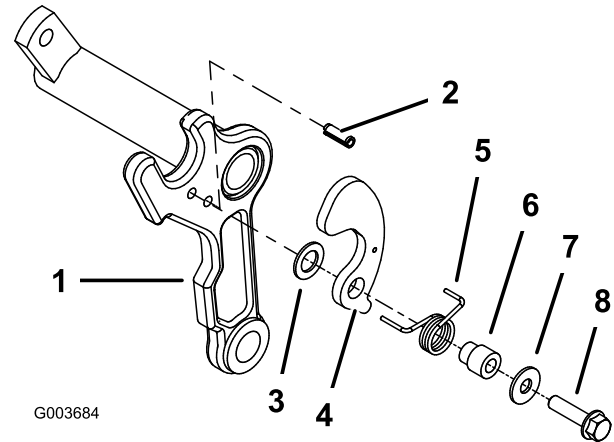

Figure 4
4. Install a roll pin into the lower hole in the appropriate side of each cutting unit carrier frame (Figure 4). The end of the roll pin should be flush with the inner side of the carrier frame.
5. On the same side of the carrier frame that the roll pin is installed, mount a plastic washer, basket bracket, torsion spring, basket collar, flat washer (0.344 x 0.875) and bolt (5/16 x 1-1/4 inches) (Figure 4).